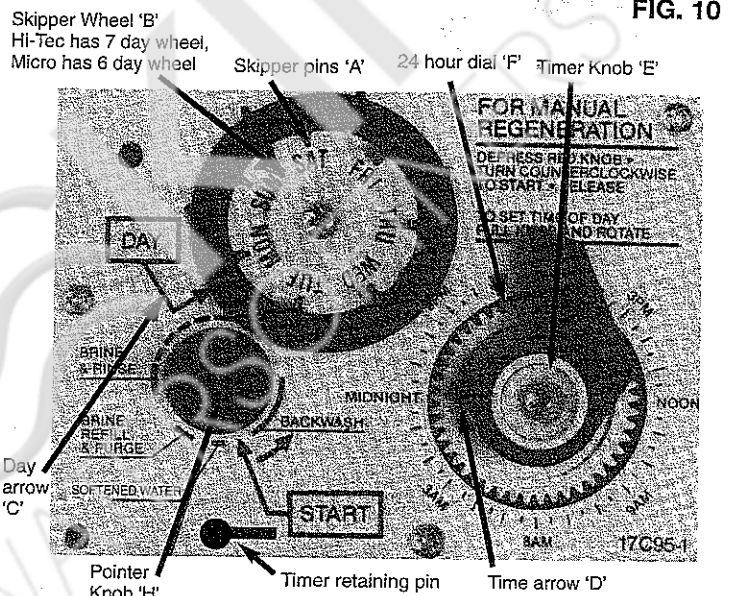
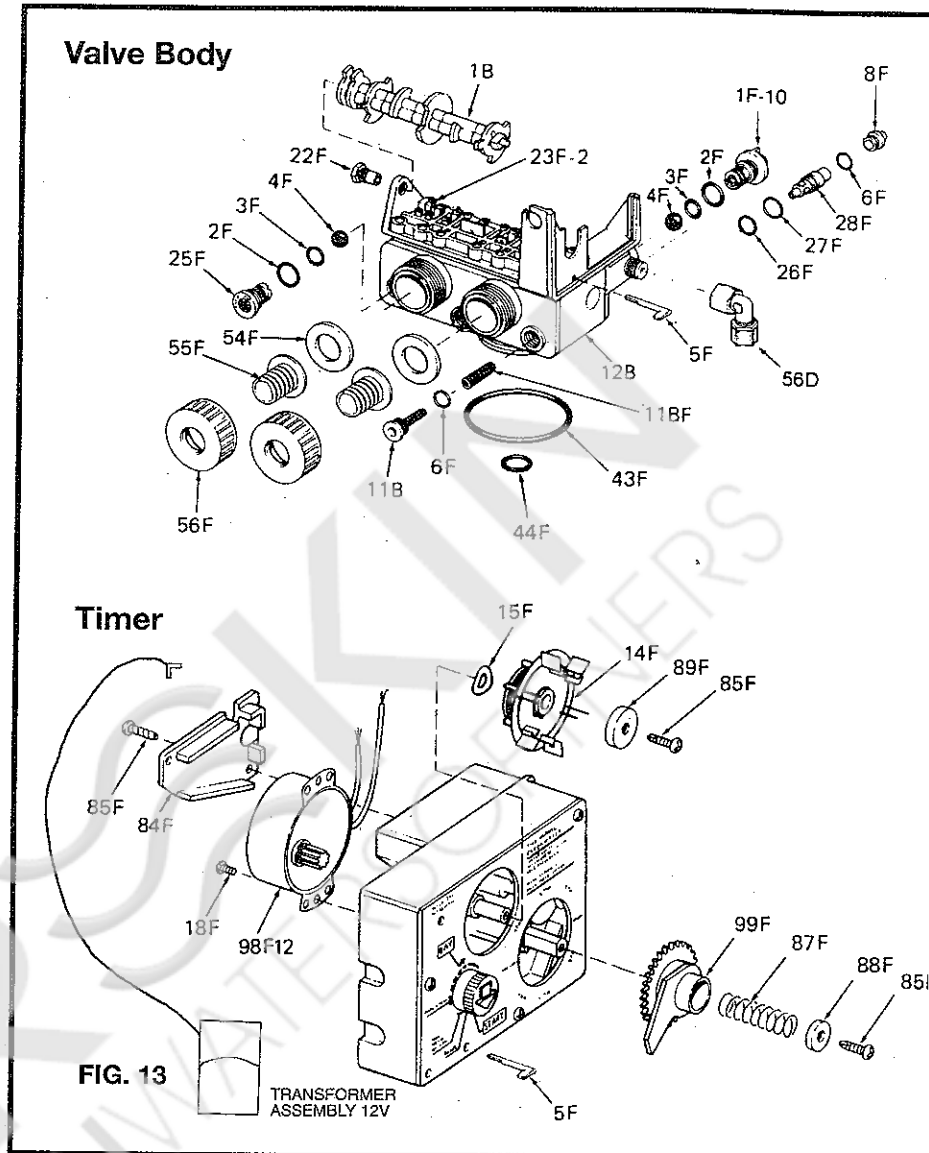

FIG. 10
FIG. 13
2. Depress and turn pointer knob 'H' (Fig 10) on the control, anticlockwise using broad headed screwdriver, to the backwash position. Assist this movement by simultaneously turning the camshaft with your other hand. (Fig. 13 Part 1B).
1. Set time arrow 'D' (Fig 10) to correct time of day by grasping timer knob 'E', pulling outwards and rotating in either direction until the actual time of day on the 24hr. time dial lines up with time arrow 'D'. Release timer knob 'E' and ensure that cogs relocate.
2. Depress and turn black pointer knob 'H' (Fig. 11) on the control, anticlockwise using broad headed screwdriver, to the backwash position. Assist this movement by simultaneously turning the camshaft (Fig. 13, Part 1B) with your other hand.
- c. Relieve tank pressure by opening valve No. 6 (at rear) with a screwdriver or finger pressure (Fig. 13).